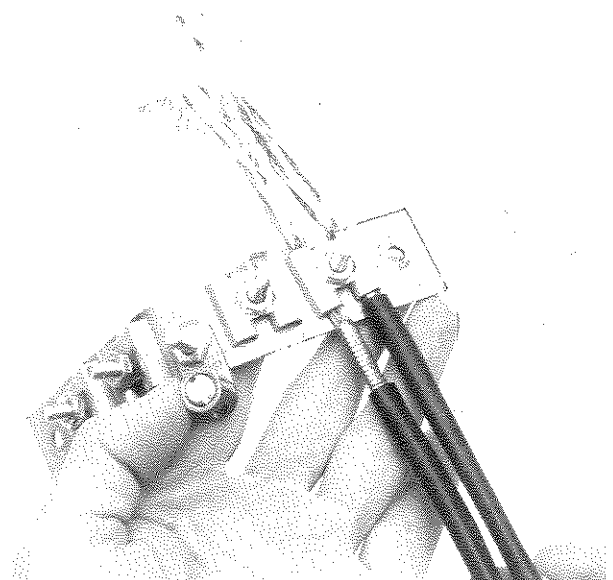

Figure 2
3.02 Insert service wire shields under clamps and tighten nuts. See Figure 2.